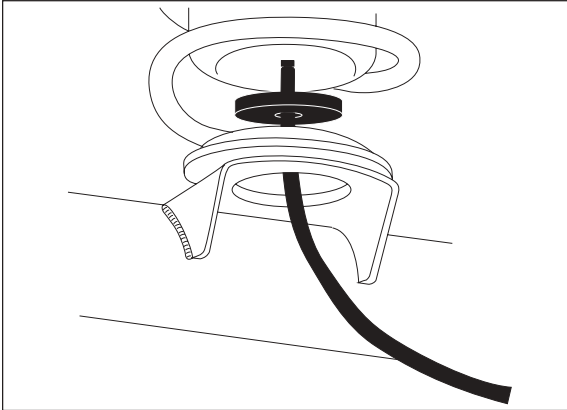

Figure 5
- Push cylinder to the top of the coil spring and insert the protector on top of the lower spring seat (Figure 5).
- Push the cylinder to the top of the coil and insert the protector on the bottom of the cylinder (Figure 5).